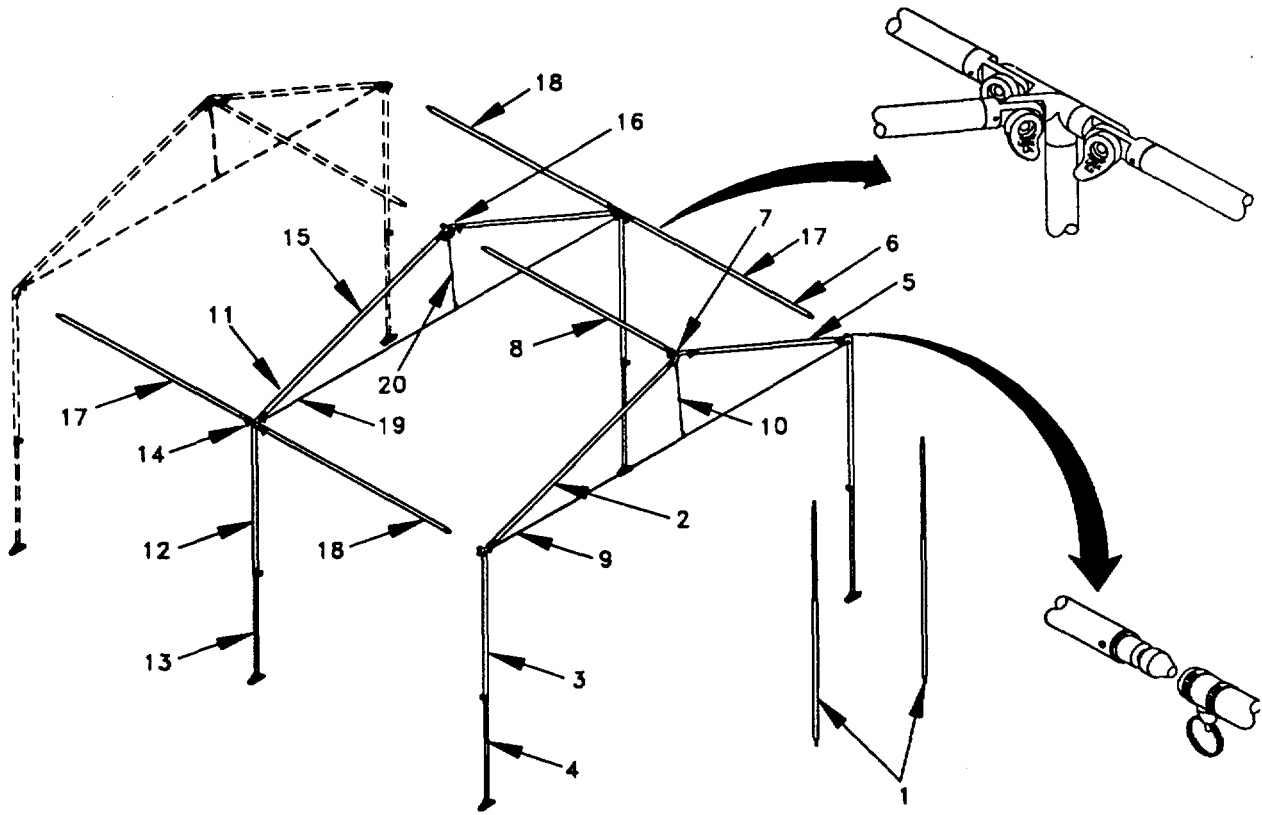

Figure 1-2.
(13) Fabric Transport Bag. The fabric transport bag (13) is constructed of a coated cloth material. When loaded, it is approximately 36" long, 26" wide and 15" high. Three quick disconnect male fasteners are located along one side approximately 14" apart. Corresponding quick disconnect female fasteners are located on the opposite side. Both ends are secured with one each additional quick disconnect male/female fastener, as well as 2" strips of hook and pile fasteners. One carrying handle is located at each end of the bag. An identification label is sewn to the inside of the bag. Additionally, "TENT BAG" and a weight limit warning is stenciled onto the side. Two fabric transport bags are issued with each MCPS.
(14) Tent Pin Container. The tent pin container (14) is constructed of a polyester cloth. It is approximately 37 1/2" long and 15 1/2" wide. The container is secured with tie straps. One tent pin container is issued with each MCPS.
b. Tent Frame Assembly. The major components of the tent frame assembly are identified in Figure 1-2, and described in paragraphs (1) through (3) below.
(1) Telescopic Pole Assemblies. The telescopic pole assemblies (1) are constructed of aluminum alloy tubing. They support the covered entrance way. The upper part fits through grommets located in the entrance way roof assembly. The poles also fit through two pole holders on the left and right blackout door assemblies. Two telescopic pole assemblies are provided with each MCPS frame assembly.
(2) End Wall Frame Assembly. The end wall frame assembly (2) is constructed of extruded aluminum tubing and supports the front or rear of the MCPS. It consists of two upper (3) and two lower (4) leg assemblies, two rafter assemblies (5), two end wall fitting assemblies (6), an end peak fitting assembly (7), a left hand purlin (8), a cable assembly (9), and a cord (10). Two end wall frame assemblies (2) are required to set up the MCPS.